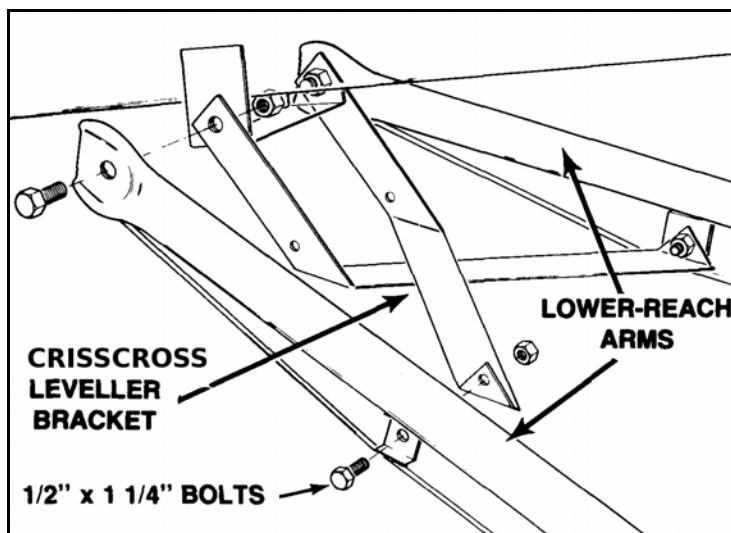

Figure 3.9
3. Attach crisscross leveler bracket to the lower reach arm (Figure 3.9) with two 1/2" x 1-1/4" bolts and locknuts.
8. Position transport undercarriage beneath tube assembly and attach lower reach arms and leveler bracket to the lower reach arm mounting bracket with 5/8" x 1-1/2" bolts and locknuts. **Do not overtighten.** Tighten snug only; these bolts act as pivot points (see Figure 3.9).